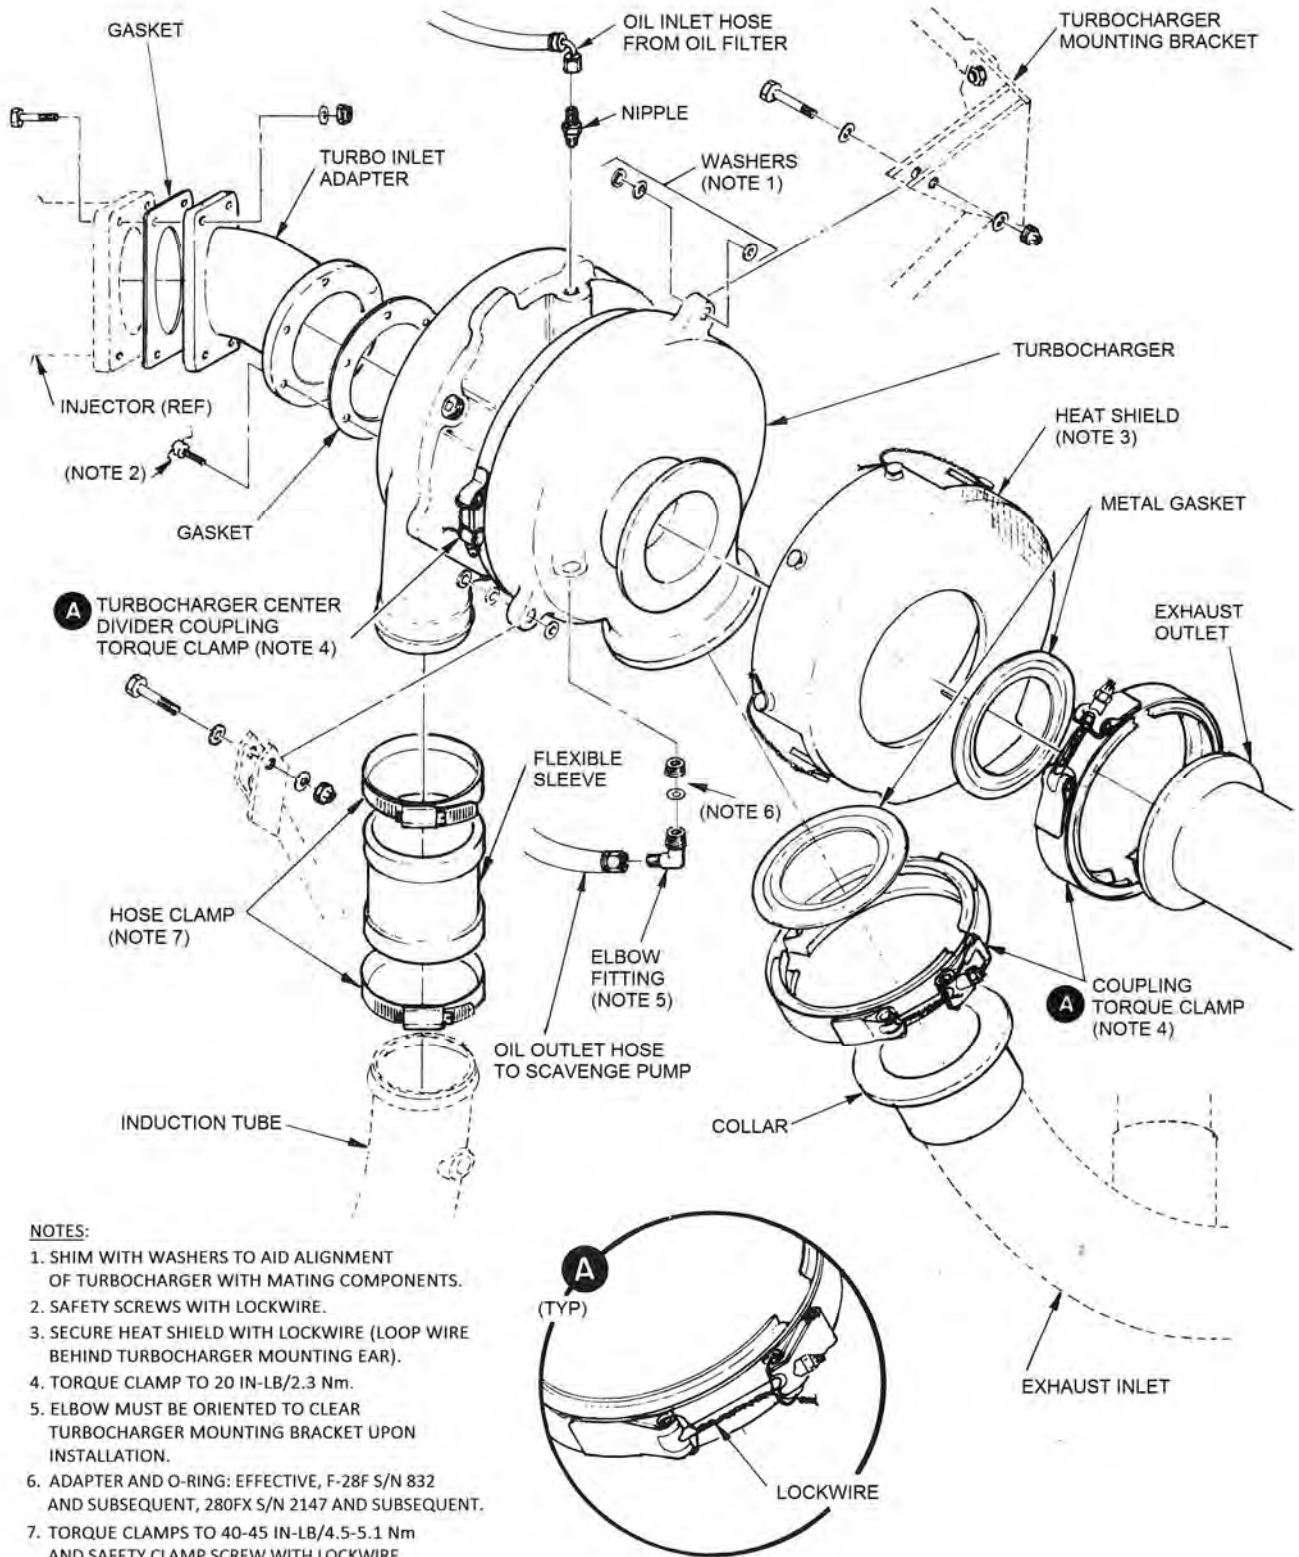

Figure 13-9. Turbocharger Installation
B. Turbocharger - Removal (See Fig. 13-9)
- (1) Remove seat cushions and back access panel in fiberglass seat deck.
- (2) Remove firewall access panels from cabin firewall.
- (3) Open left side engine panel.
- (4) Remove clamp from exhaust outlet and gasket.
- (5) Disconnect and remove turbo heat shield.
- (6) Remove exhaust inlet clamp and slide adapter collar down on the exhaust tube. Remove gasket.
- (7) Loosen induction tube clamps and slide adapter collar down on the induction inlet tube.
- (8) Disconnect inlet and outlet lines.
- (1) Rotating unit rubbing housing.
- (2) Cracked or distorted housing.
- (3) Dirt accumulation on impeller.
- (4) Carbon buildup on turbine wheel.
- (5) Foreign object damage.
- (6) Evidence of looseness between compressor and turbine sections.
D. Turbocharger – Installation (See Fig. 13-9)
- (1) Install a new gasket between the turbo inlet adapter and the turbocharger and secure adapter, properly oriented, to the turbocharger. Torque the screws to 35 in-lbs/4.0 Nm. Safety wire screws.